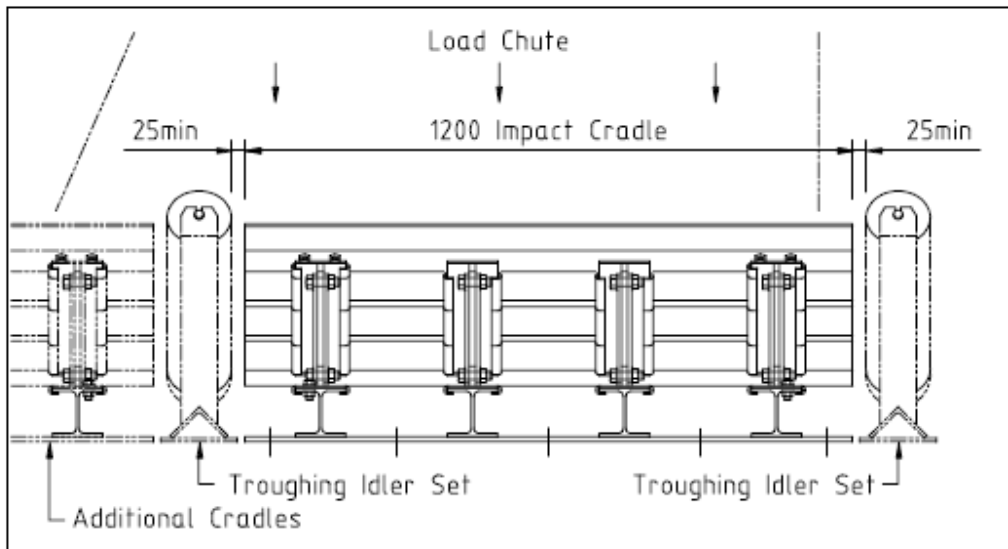

Figure 1 - GAB Impact Cradle Layout
7. If not already in position, install an impact idler set either side of the impact cradle base ensuring that 25mm clearance will be available at both ends of the centre impact bars (Fig 1).